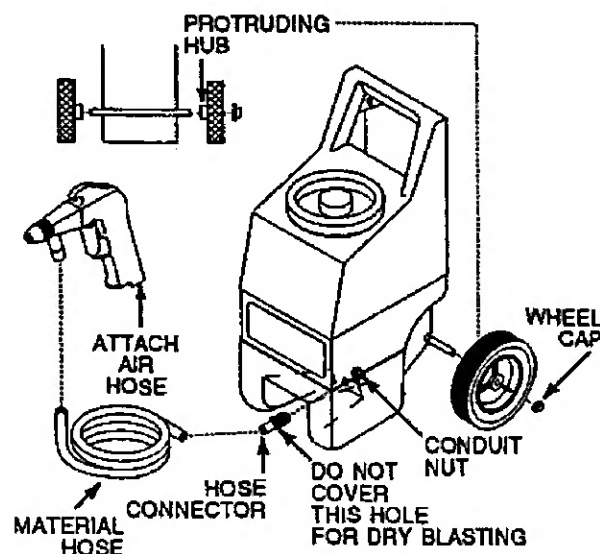

Figure 6 - Model AT121102AJ - 120 LBS
1. Slide the wheel onto the axle and lightly hammer on the wheel cap. Make sure the protruding hub on the wheel is facing the hopper (See Figure 6). Repeat for the opposite side.
3. Attach the material hose to the hose connector. Attach the opposite end of the material hose to the gun (See Figure 6).